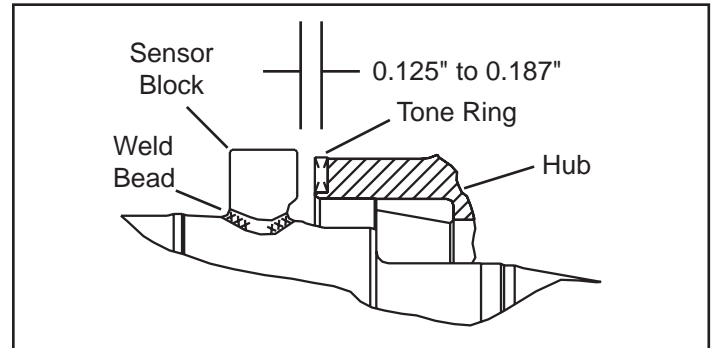

FIGURE 14 - SENSOR BLOCK GAP TO TONE RING FACE
5. Position and mark the sensor block on the axle. Before welding, verify a gap of 0.125" to 0.187" between the sensor mounting block face and the tone ring teeth. See Figure 14.